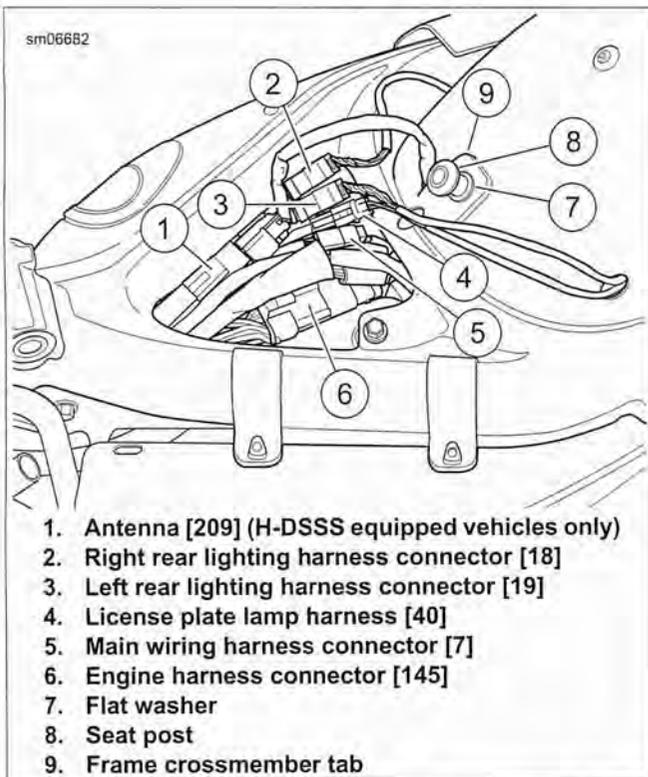

Figure 6-93. Rear Lighting Harness Connectors: XL 883N, XL 1200N/X
4. See Figure 6-93. Unplug the following harness connectors:
- a. Antenna [209] (1) (H-DSSS equipped motorcycles only)
- b. Right rear lighting harness [18] (2)
- c. Left rear lighting harness [19] (3)
- d. License plate lamp harness [40] (4)
- e. Main wiring harness [7] (5)
- f. Engine harness connector [145] (6)
9. See Figure 6-93. Plug in the following harness connectors:
- a. Antenna [209] (1)